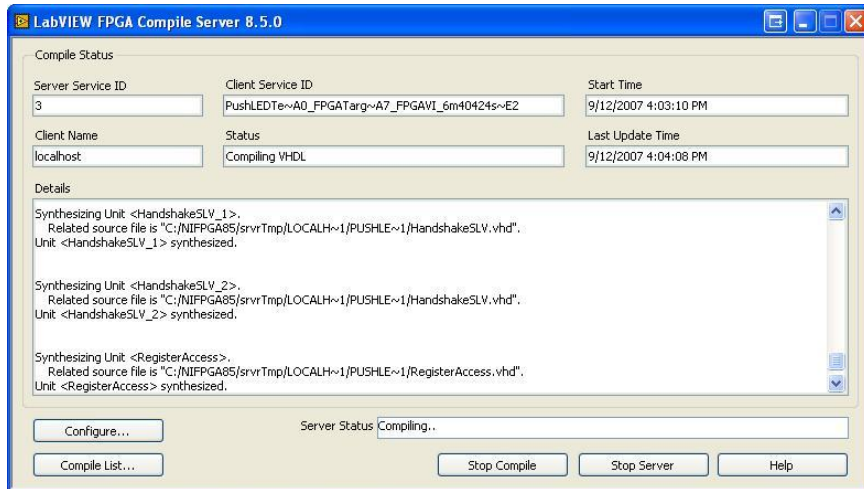

Figure 18: Compile FPGA Code
2. After generating the intermediate files, the LabVIEW FPGA Compile Server 8.5.0 will open as shown in Figure 18.